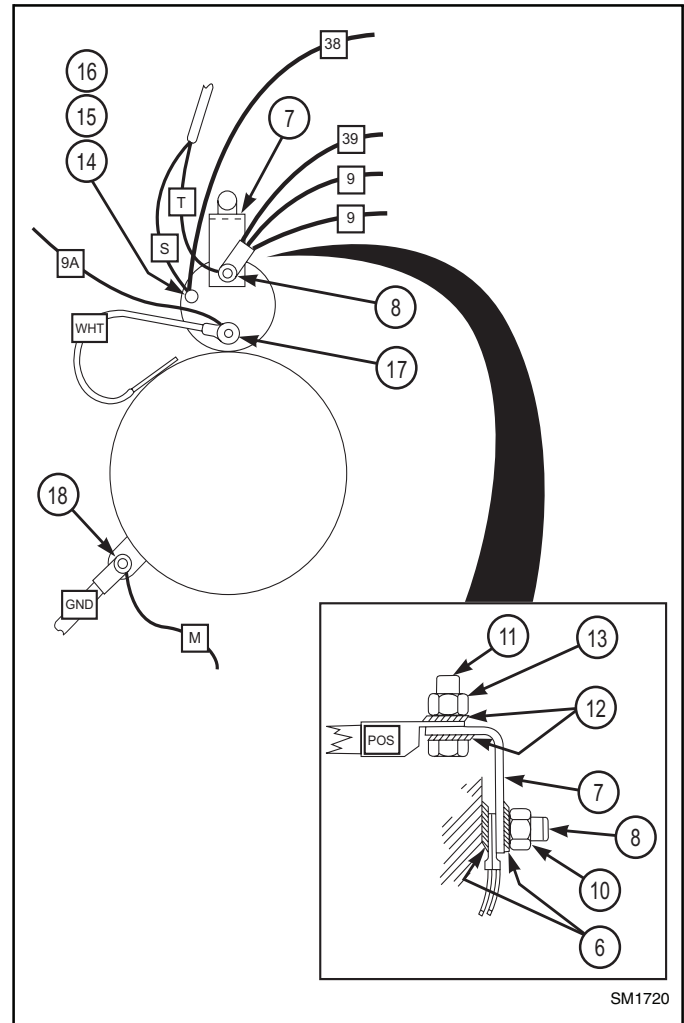

Figure 21
- d. (From the kit) install lockwasher #8310016 (6), terminal strap #6621412 (7), wires "9," "9," "T" & "39" to the starter solenoid (+) stud (8) with lockwasher #8310046 (6) and nut #8305438 (10). Tighten to 12 lb-ft. (Figure 21).
- e. Attach positive battery cable "POS" with (from the kit) screw #8303620 (11), lockwashers #8307026 (12), on terminal strap (7) and nut #8305008 (13). (Figure 21).
- f. Attach wires "38" and "S" onto the starter solenoid (14) with (from the kit) lockwasher #8307052 (15) and nut #8310077 (16). Tighten to 25 lb-in. (Figure 21).
- g. Attach wire "9A" and white ground cable "WHT," from the starter ground (-) stud (17). Tighten to 6 lb-ft. (Figure 21).
- b. Attach wire "M" along with the frame ground cable "GND" to the lower left starter mount capscrew (18). (Figure 21). Torque the lower left capscrew to 32 lb-ft (43,4 Nm).